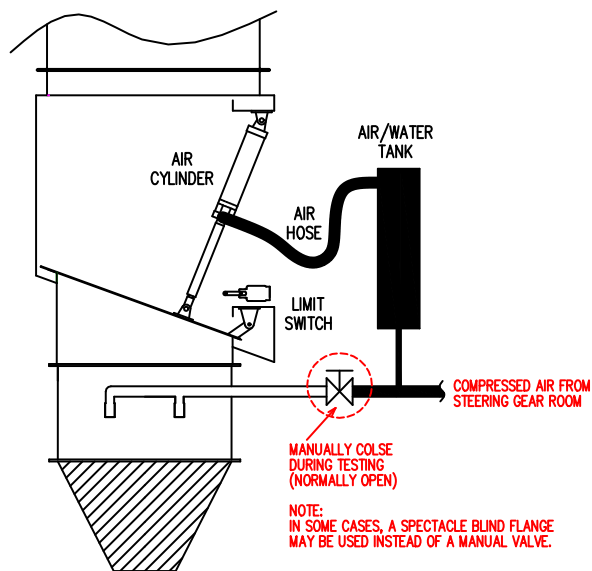

Fig.1
- C) Set the relevant valves (valves in the steering gear room and the manual valve or spectacle blind flange arranged immediately in front of each foam generator) as shown in Fig.1. Operate the test switch in the main control panel to set the only relevant automatic valve as indicated. Wrong setting could result in an outflow of the residual water in the piping to the protected zone.